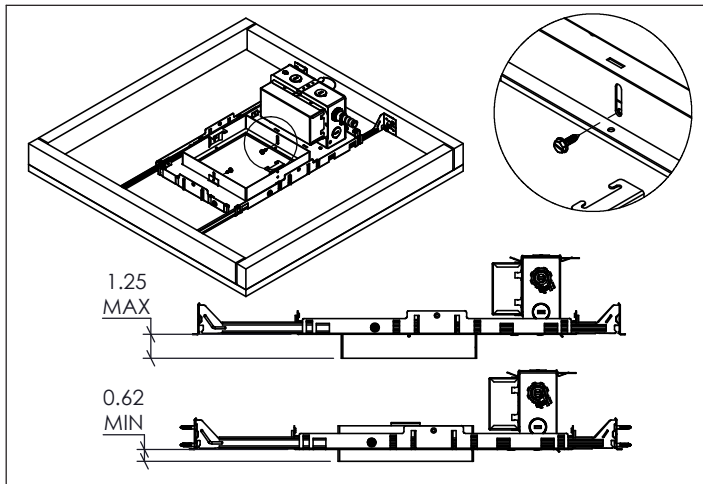

Figure 5
5. Adjust height of Collar, by loosening screws, to match ceiling thickness. (Fig. 5)